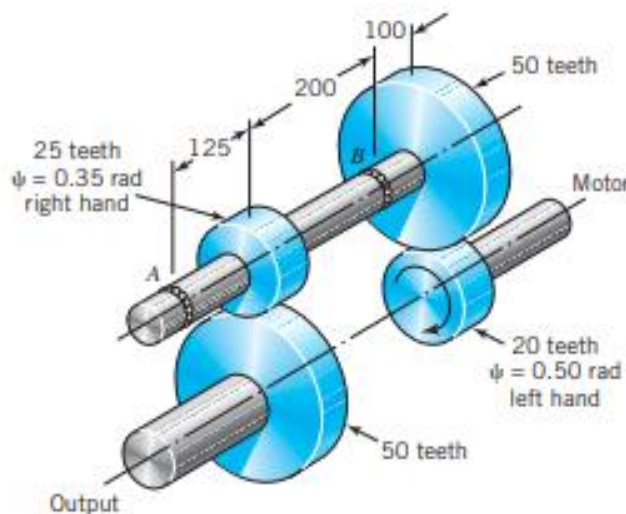

FIGURE P16.16
- 16.16 The four helical gears shown in Figure P16.16 have a module in the normal plane of 4 mm and a pressure angle in the normal plane of 0.35 rad. The motor shaft rotates 550 rpm and transmits 20 kW. Other data are on the drawing.